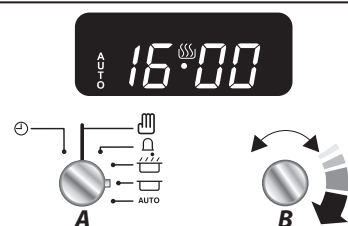

Fig. 3.12
5. Turn the **Timer (A)** knob to the **Auto (H)** setting (**Fig. 3.12**). If the display shows the current time and the word '**AUTO**' the oven is set to turn on and off.